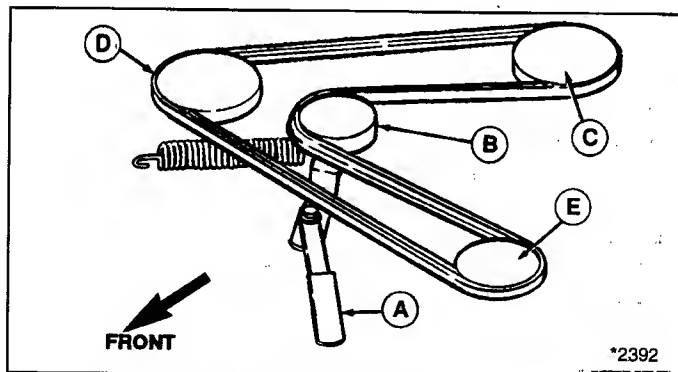

Figure 37. Belt Pattern - 34" Mower
4. Remove old belt from arbor pulleys and replace with new belt. Make sure V-side of belt runs in all arbor pulley grooves and flat side of belt runs against idler pulley. See figure 37 for belt pattern.